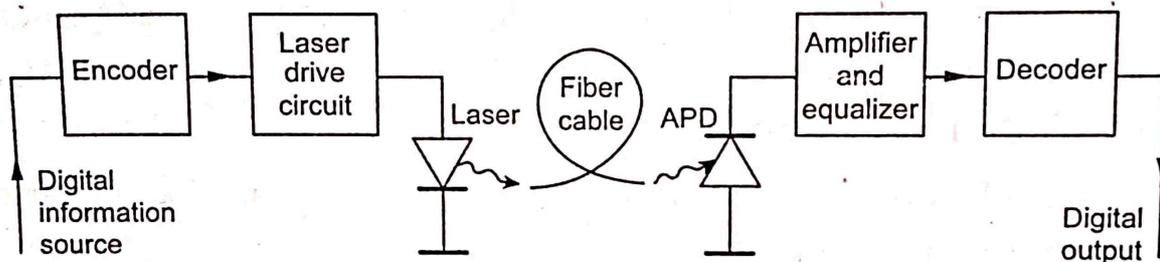

Fig 1.4 Digital optical system
- ♣ The working principle of the digital optical system as shown in Fig 1.4. The input digital signal from an information source is suitably encoded for optical transmission.